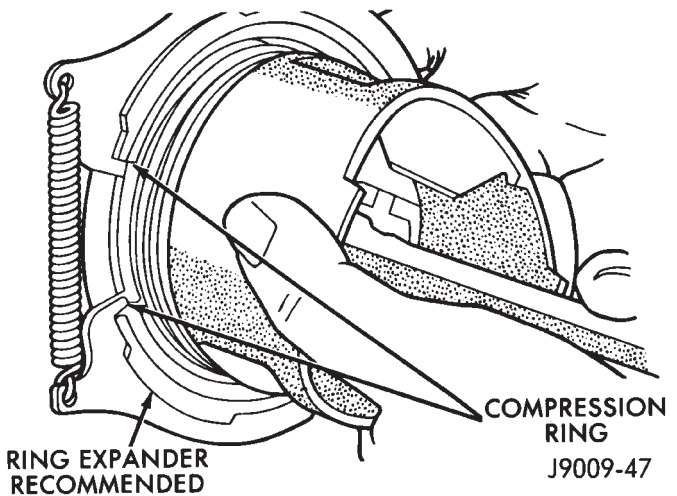

Fig. 16 Compression Ring Installation
(9) The top compression ring (the scraping edge is gray in color) has a chamfer on the TOP of the inside edge (Fig. 16). This ring may also have 1 dot located on the top surface.